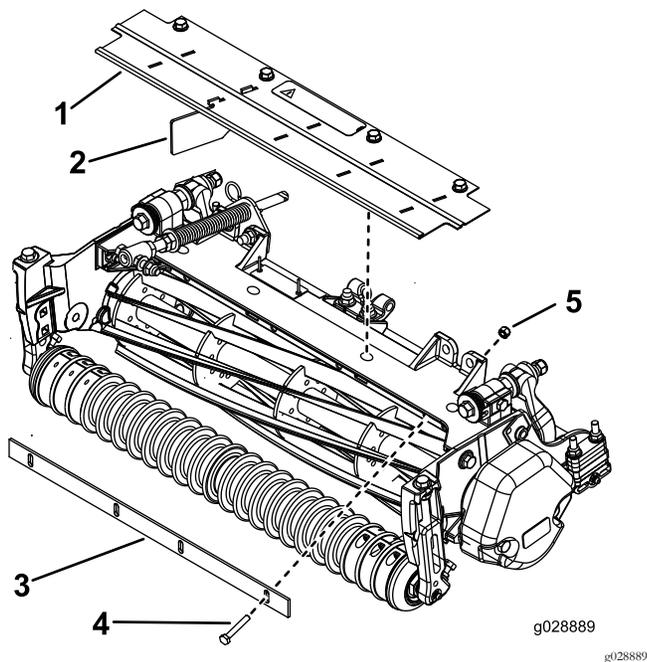

Figure 7
1. Loosely mount the cutoff bar to the cutting-unit frame with 4 bolts (1/4 x 1-3/4 inches) and 4 locknuts (1/4 inch); refer to Figure 7.
3. Tighten the bolts and locknuts (Figure 7).
1. Remove the 4 flange-head bolts securing the front grass shield to the cutting-unit frame (Figure 7). Remove the grass shield.
2. Remove 4 deflectors from the shield leaving only the 1 deflector shown in Figure 7.